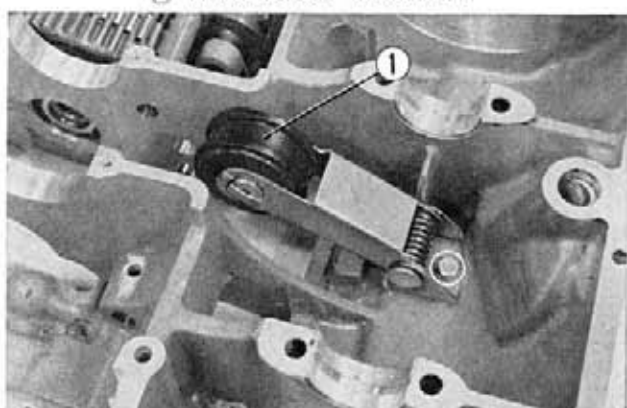

Fig. 3-89 ① Primary chain tensioner
6. Remove the primary chain tensioner from the lower crankcase. (Fig. 3-89)